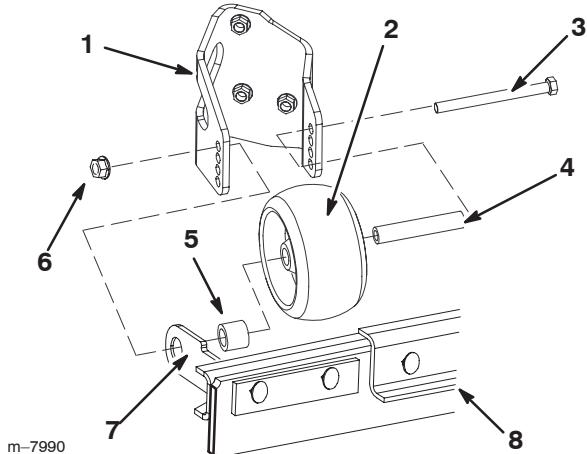

Figure 12
2. Remove the anti-scalp roller wheel, axle bolt, hub, wheel spacer, and flange nut (Fig. 12) from the wheel bracket.
4. Assemble the anti-scalp roller wheel and striping assembly as shown in Figure 12.
5. Secure the anti-scalp roller wheel and striping assembly with the axle bolt and flange nut removed previously (Fig. 12).